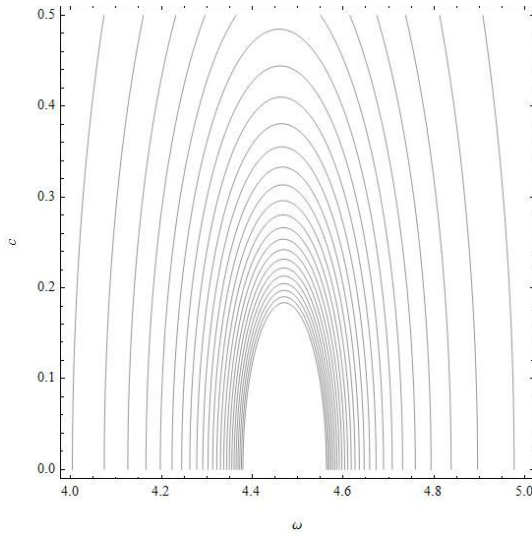

**Figure 1.** Maximum Steady State Amplitude vs. Input Frequency.
As an example, consider the following parameters,  $m = 1$  kg,  $k = 15$  N/m,  $c = 3$  N/(m/s), and  $F_0 = 1$  N. We plot the curve of Maximum Steady State Amplitude vs. Input Frequency  $\omega$  in Figure 1.
Figure 1 is a very powerful plot as it tells us what frequency will produce maximum steady state response for our system in differential equation (1). Indeed, for the parameters here we find that  $\omega_{\max} = 3.24037$  radians/second and the maximum steady state amplitude is 0.093352 m.
- e) Change on of the paramaters from the set give in the material above,  $m = 1$  kg,  $k = 15$  N/m,  $c = 3$  N/(m/s), and  $F_0 = 1$  N, and see how the plot in Figure 1 changes and what the relationship is between maximum frequency response and parameter change.